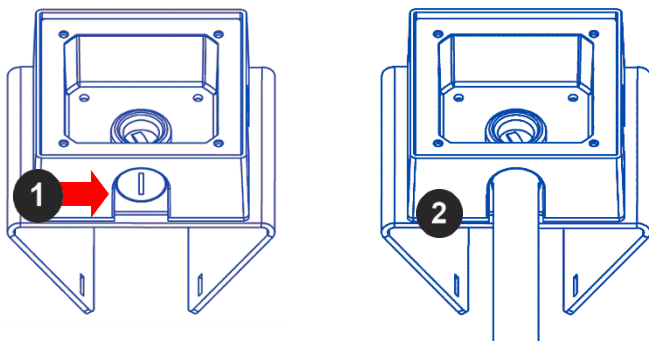

Figure 1: Attach conduit to AV-JBA-W junction box adapter
3. Attach the AV-JBA-W (Junction Box Adapter) to the Pole Mount Adapter (Figure 1).
4. Remove the conduit plug on the junction box adapter and connect $\frac{3}{4}$ " NPT conduit to the junction box adapter (Figure 1).